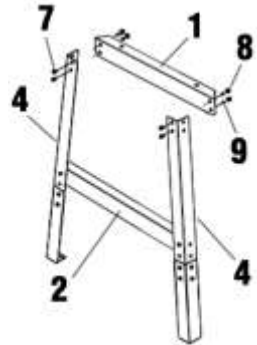

Fig. 4
12. Align the mounting holes located at each end of a top long brace (#1) with the mounting holes located on the upper inside edges of the 2 legs, positioning it above one of the bottom long braces (Fig. 4).
13. Insert 4 carriage bolts through the aligned mounting holes of a top long brace and 2 legs, attach spring washers and nuts to the carriage bolts and then tighten partially (Fig. 4).